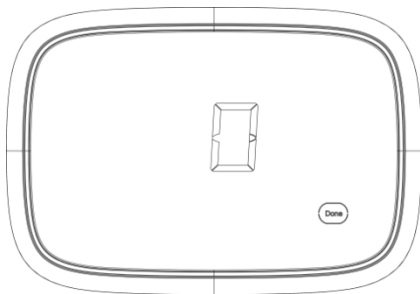

Fig.29.
3. When the counter gets to 0, press the  key to return to the Home Screen and normal operation. See Fig.29.